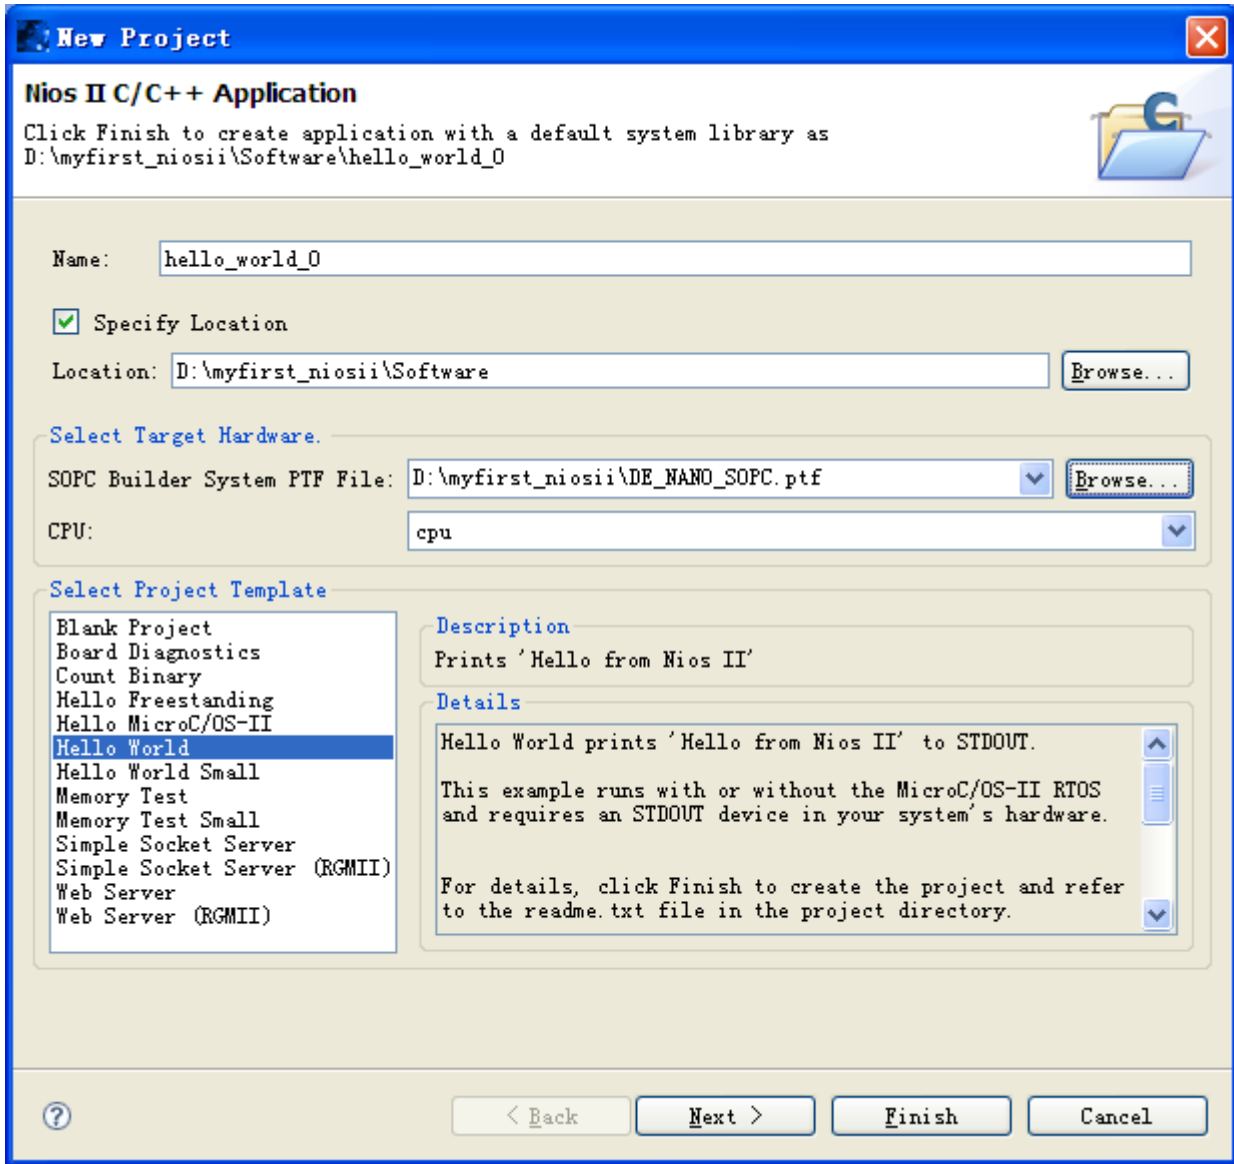

Figure 7-57 Nios II IDE New Project Wizard
- c. Select the target hardware system PTF file that locates in where the previously created hardware project resides as shown in **Figure 7-57**.